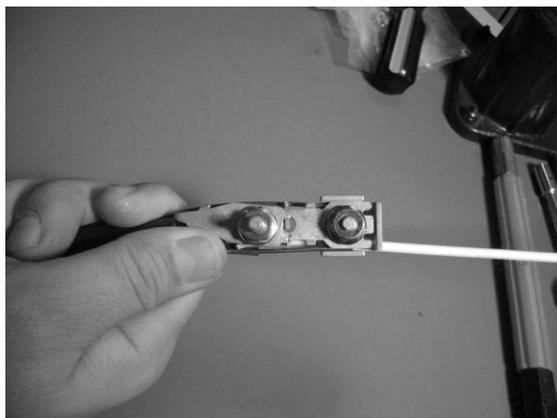

Figure 5 – Trim the strength wires and secure between the lock cap and extension bracket.
2.6 Attach the lock cap on the bottom side of the extension bracket. Trim the metallic strength members as required to clamp between the lock cap and the extension bracket. Install a lock nut over the stud of the lock cap to secure the strength members (Figure 5).